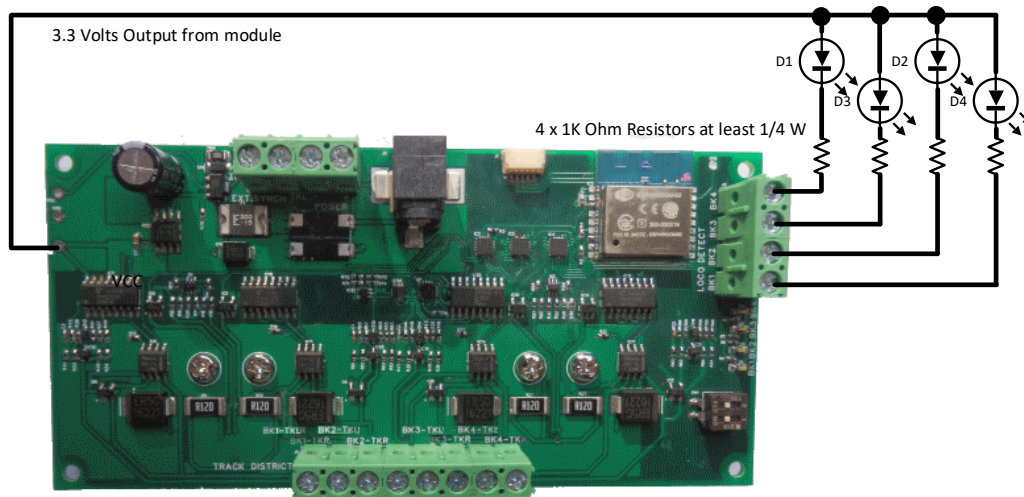

Figure 6. Connections for LED Occupation Indication
- (3) When you have organized your track with the appropriate blocks and gaps, wire the connections from the module to your track according to the diagrams. You can either solder wires to the track or use clips and plugs provided by manufacturers. Use at least 13 x 0.12 Stranded insulated wire – black and red is a good idea.
- (4) Optionally, install four LEDs each with a 1K Ohm ¼ Watt series resistors to provide remote block occupancy indication as shown in Figure 6. You will need to solder a wire to the 3.3 Volt output on the module. **Take great care not to short this power as it may damage the module. Do not omit the series resistors or the module and LEDs may be damaged!**